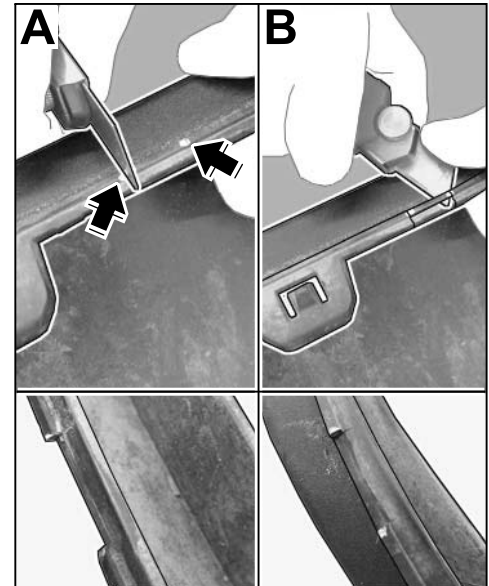

Figure 5
- 3.5.3 Cut standard rear panel using a cutter (Stanley knife), for example, ⇒ *Figure 5-A* - at the markings ⇒ *Figure 5-Arrows*- and remove material between the cuts ⇒ *Figure 5-B* -.